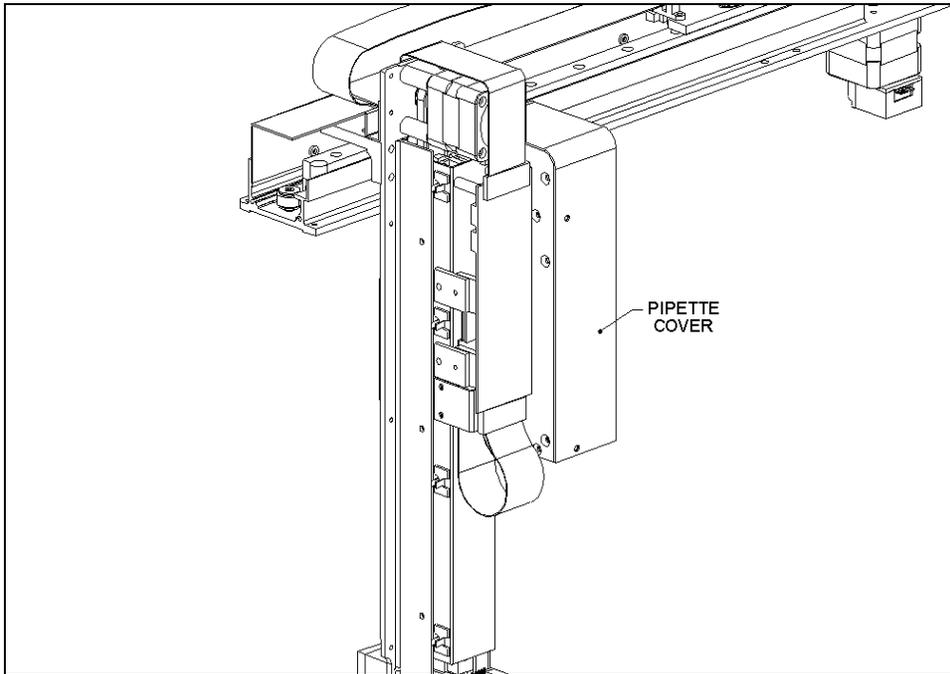

Figure 7-9 Removing the Pipette Cover
- 5 Remove the Pipette Cover (Part No. 204010400) by removing the five M3 x 6 BHCS screws and five M3 shakeproof washers (Figure 7-9).